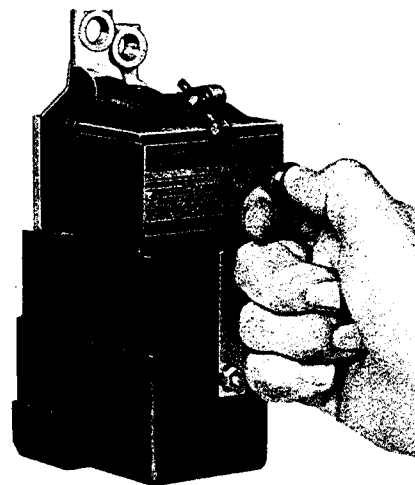

Fig. 28 (8016188) Checking travel distance of series overcurrent tripping device
push the armature solidly against the magnet (see Fig. 28). The trip arm should travel at least 5/32-in.
The reverse current tripping device (see Fig. 28) consists of a series coil (2) with an iron core mounted between two pole pieces (9), also a potential coil (7) connected across a constant source of voltage and mounted around a rotary-type armature (10). Calibration spring (6) determines the armature pick-up when a reversal of current occurs.